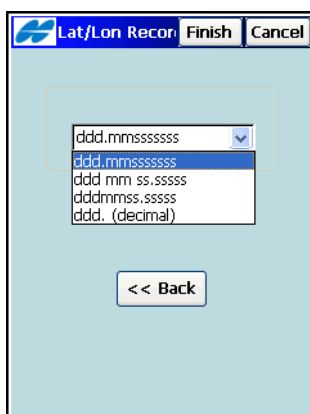

Figure 4-20. Select Latitude/Longitude Format
- **Next** – opens the *Lat/Lon Record Format* screen if the type of geodetic coordinates is selected (Figure 4-20 on page 4-19).
On the Latitude/Longitude Record Format screen (Figure 4-20 on page 4-19), select from the drop-down list the format you want to represent the degrees of Latitude and Longitude in the file exported.